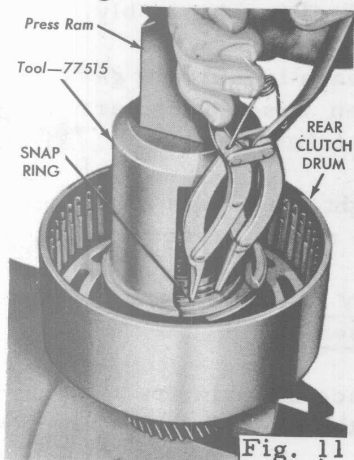

Fig. 11
- ☒ Compress the spring in an arbor press (Fig. 11). Remove the snap ring.
- ☒ Place the clutch assembly in an arbor press. Position the tool on the spring retainer (Fig. 11) Compress the clutch spring, and install the snap ring.